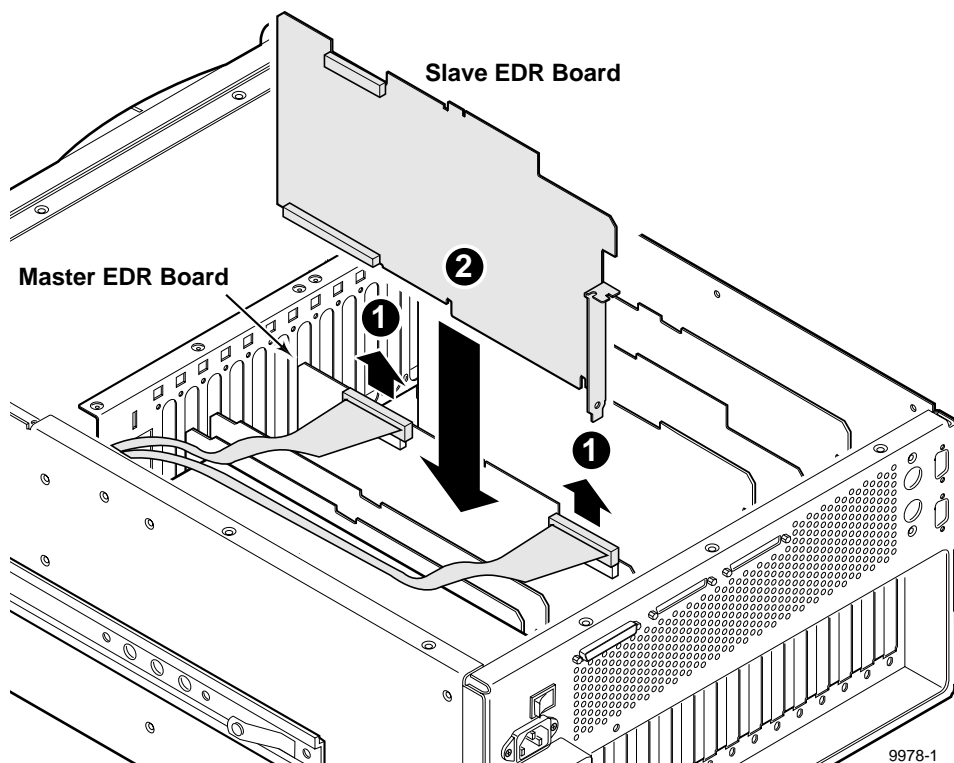

Figure 7. Installing the Slave EDR Board
1. Disconnect the SCSI cable from the Master EDR board (❶ in Figure 7). Note that there are *two* SCSI cables to disconnect if your system has eight hard drives.
4. Align the board with the connectors on the motherboard, making sure the extractor on the front end of the board is in the up position. Firmly press down on the board (❷ in Figure 7) until the board seats. The board is properly seated when the top of the rear mounting bracket is resting on the rear chassis wall shelf.